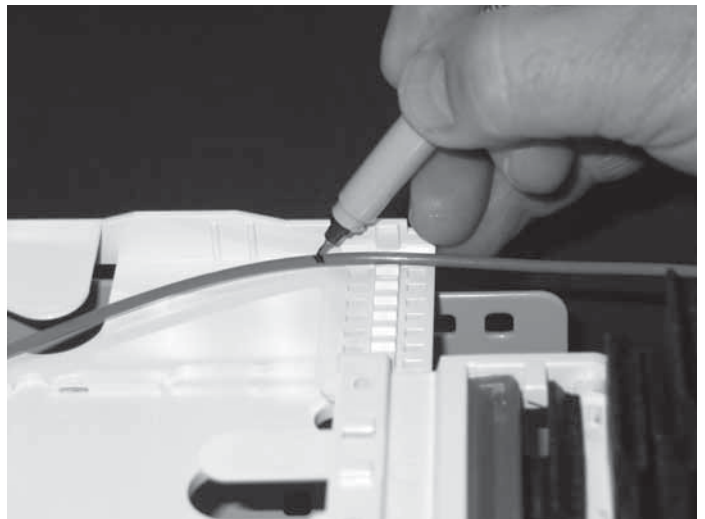

Figure 8
2. Place a mark on the buffer or transportation tube one inch past the edge of the tray. (Figure 8)